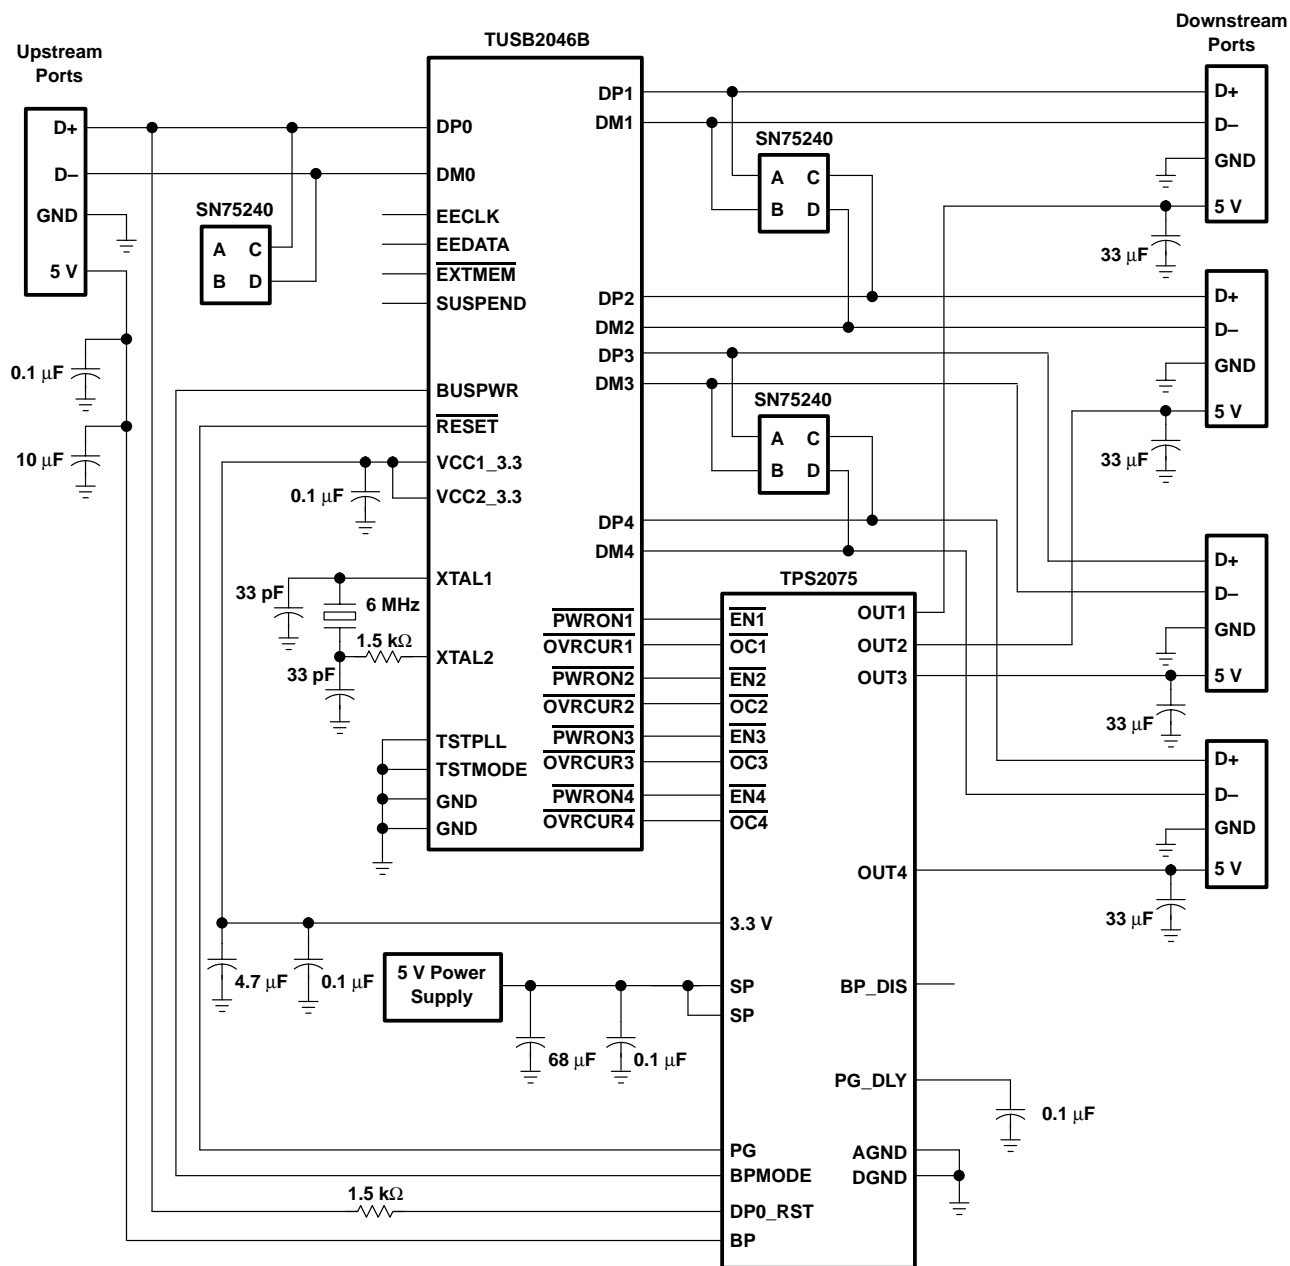

Figure 33. USB Hybrid Hub Using TPS2075 Power Controller and TUSB2046 Hub Controller
A USB hybrid hub can be simply implemented using the TPS2075 USB power controller and a TUSB2046 USB hub controller as shown in Figure 33. The TPS2075 USB power controller provides all the power needs to the four downstream ports and meets all the USB power specifications for both self-powered hubs and bus-powered hubs. The power controllers integrated 3.3-V LDO is used to provide power for the hub controller and any other local functions (e.g. transient suppressor SN75240), which saves board space and cost. The TPS2075 also provides the hub controller with a power good (PG) signal that connects to the  $\overline{\text{RESET}}$  input of the hub controller to automatically reinitialize the hub when switching between self-powered mode and bus-powered mode whenever the self-power supply is connected or disconnected. The amount of time in which the hub controller is kept in a reset state is controlled by a capacitor connected between the PG\_DLY pin of the power controller and ground.